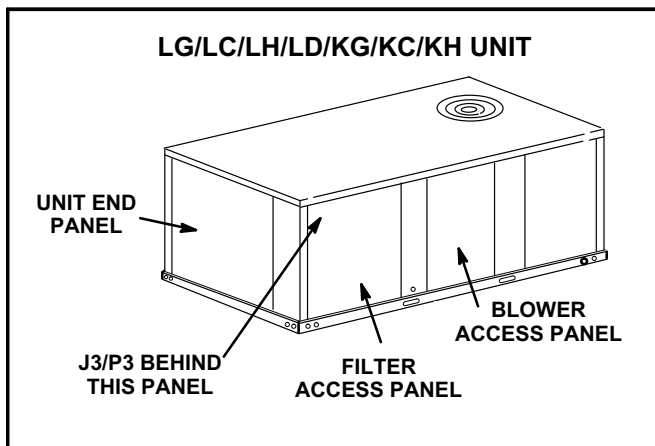

FIGURE 1
- 6- Remove and retain five screws securing end panel to the unit. See figure 1. Remove and discard end panel.
- 3- Remove and retain screws securing end panel to the unit. See figure 1. Remove and discard end panel.